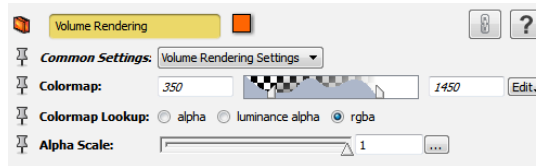

Figure 3.26: Volume Rendering Properties panel
- Select the *Volume Rendering* module in the Project View and view its colormap port in the Properties panel (see Figure 3.26).